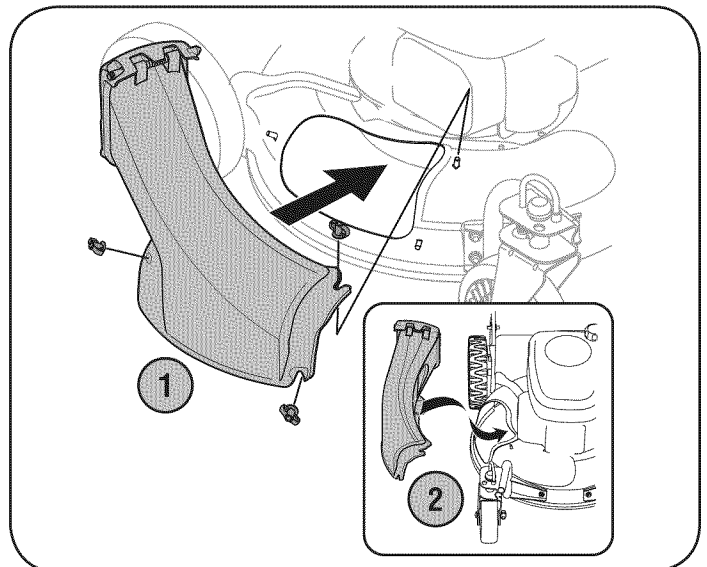

Figure 5
1. Remove three wing nuts holding the mulching baffle in place and remove from unit. See Figure 5.